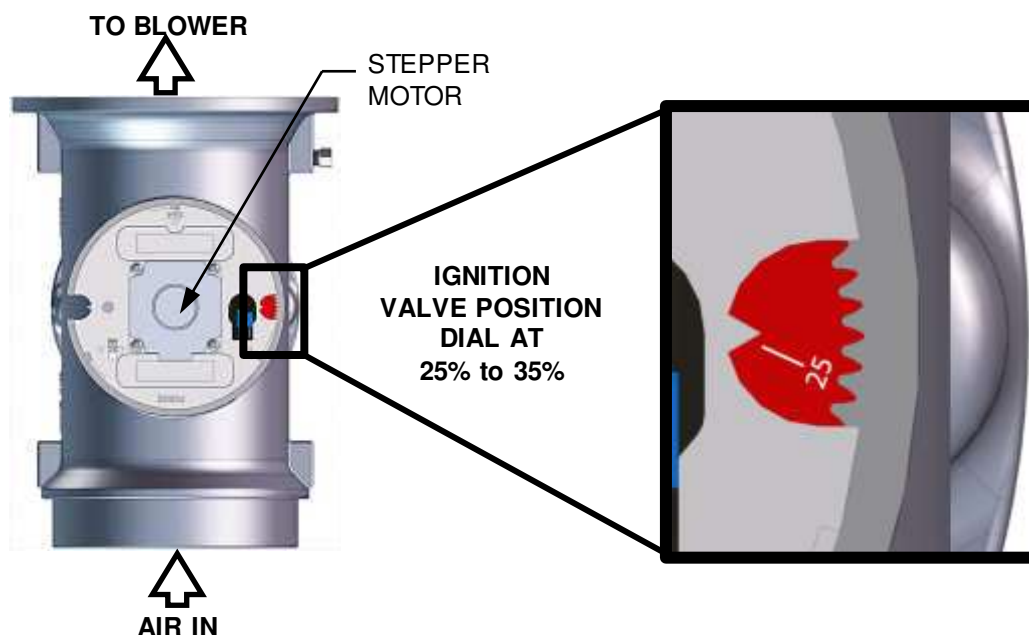

Figure 3-5: Air/Fuel Valve in Ignition Position
- a) The Air/Fuel Valve rotates to the low-fire (Ignition) position and closes the ignition switch. The Dial on the Air/Fuel Valve (Figure 3-5) will read between **25** and **35** to indicate that the valve is in the low fire position.